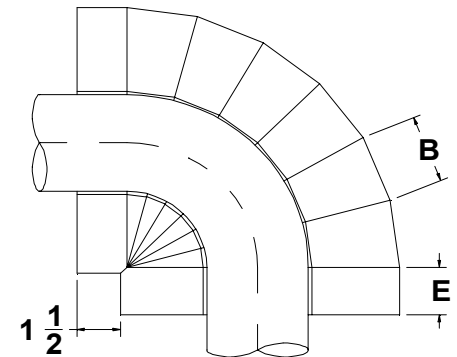

Figure 2.2 Negative Radius Ell
- E = Tangent Length for Negative Radius Fittings (Figure 2.2)¹